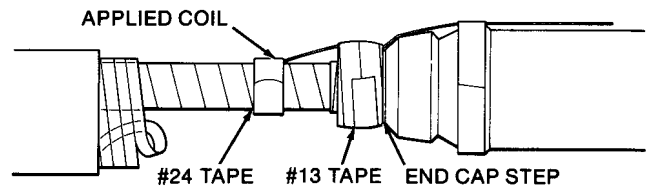

Figure 7
- d. Apply two half-lapped layers of #13 Tape over the vinyl mastic and the remaining smaller diameter portion of the end cap as shown (Figure 7).